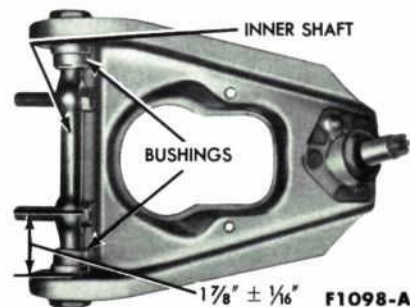

FIG. 71— Upper Arm Bushing Removal and Installation
2. Position the shaft in the arm, and install the new bushings on the shaft and the arm. Turn the bushings so that the shaft is exactly centered in the arm. The shaft will be properly centered when located at the dimensions shown in Fig. 71. Position the